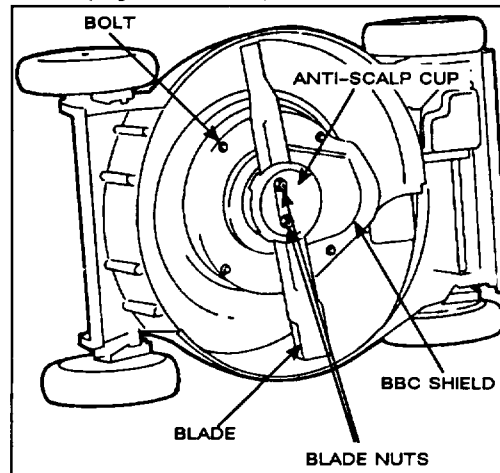

Figure 27
4. Remove (2) blade nuts, anti-scalp cup, blade, blade spacer, and (4) bolts securing BBC shield to mower deck (Figs. 27 & 28).